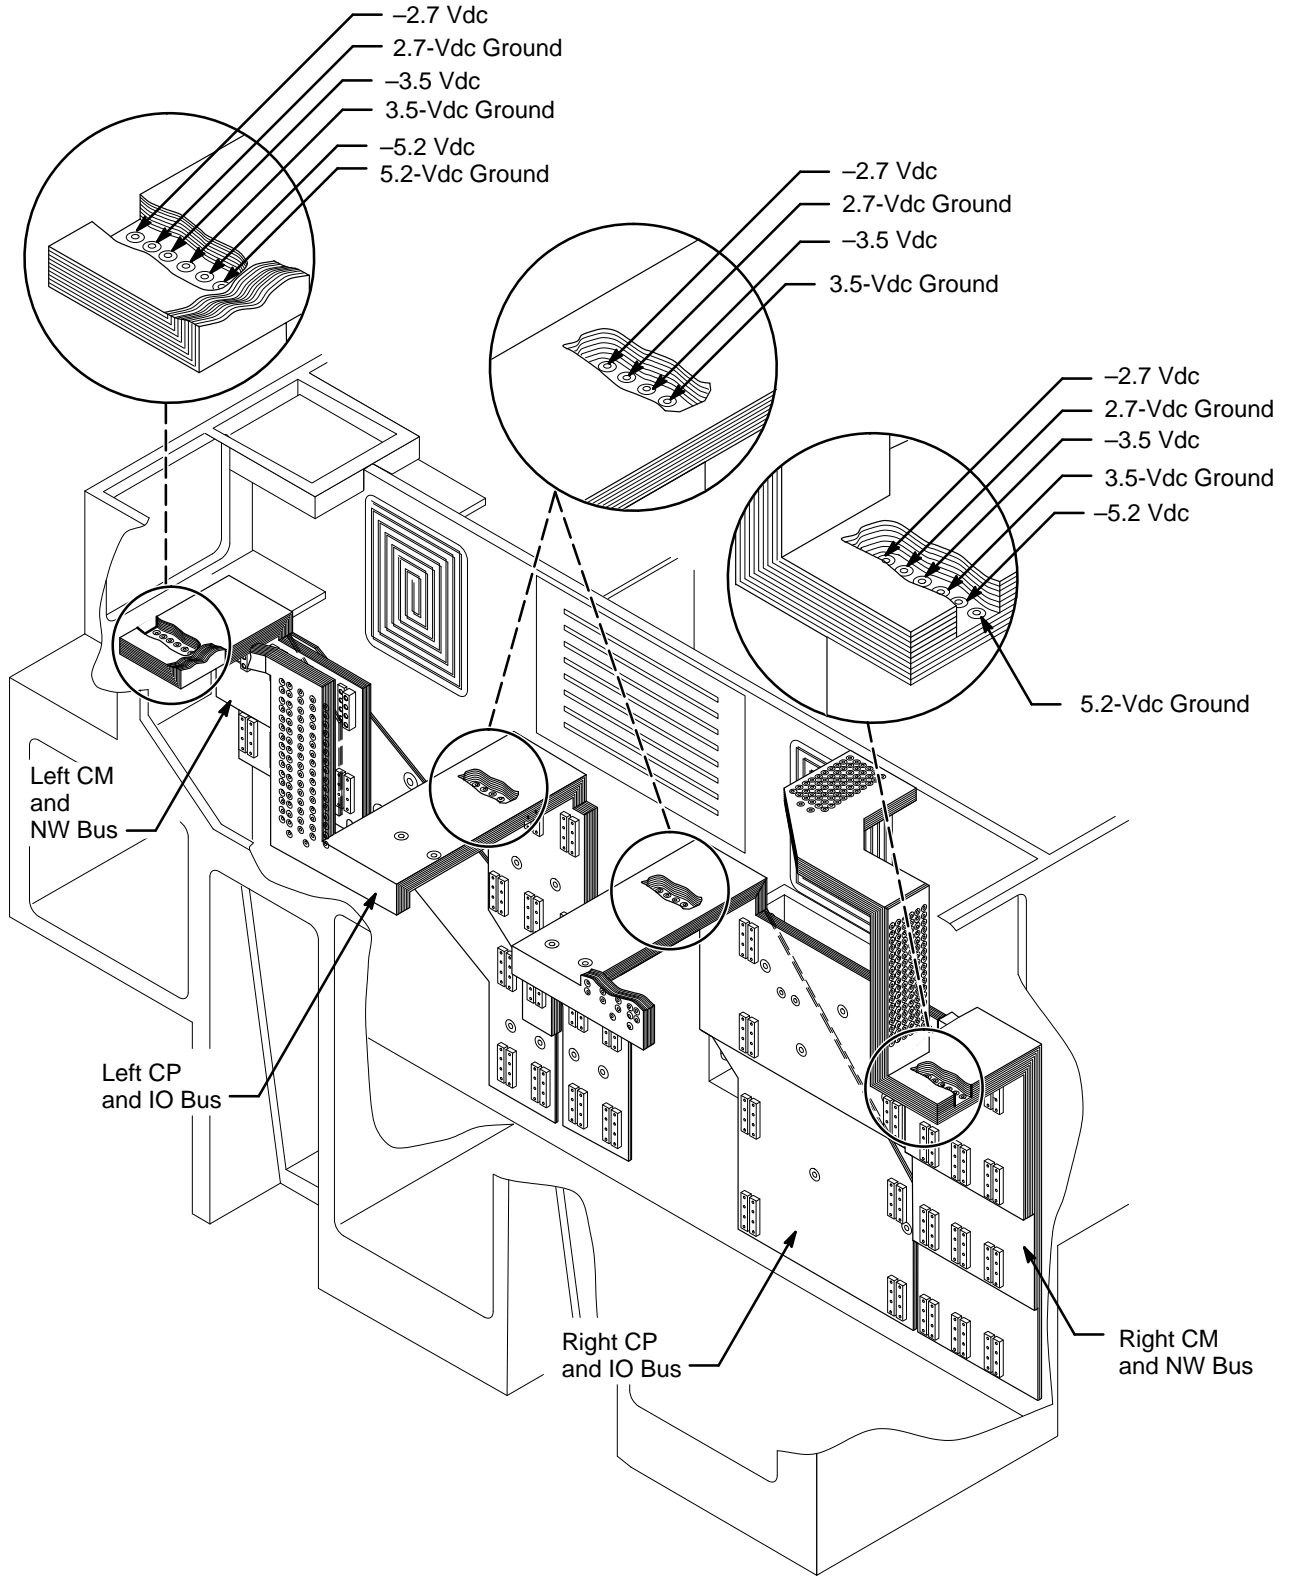

Figure 39. Voltage Sense Points
Voltage sense points enable the control system to monitor the voltage of each power bus and to signal appropriate adjustments to the power supplies for voltage output. Six voltage sense posts on each common memory (CM) bus and four sense posts on each central processor (CP) bus connect to wires that route information about the voltage levels of each bus to the control system. Figure 39 illustrates the 20 voltage sense-point locations in the CRAY T916 mainframe.